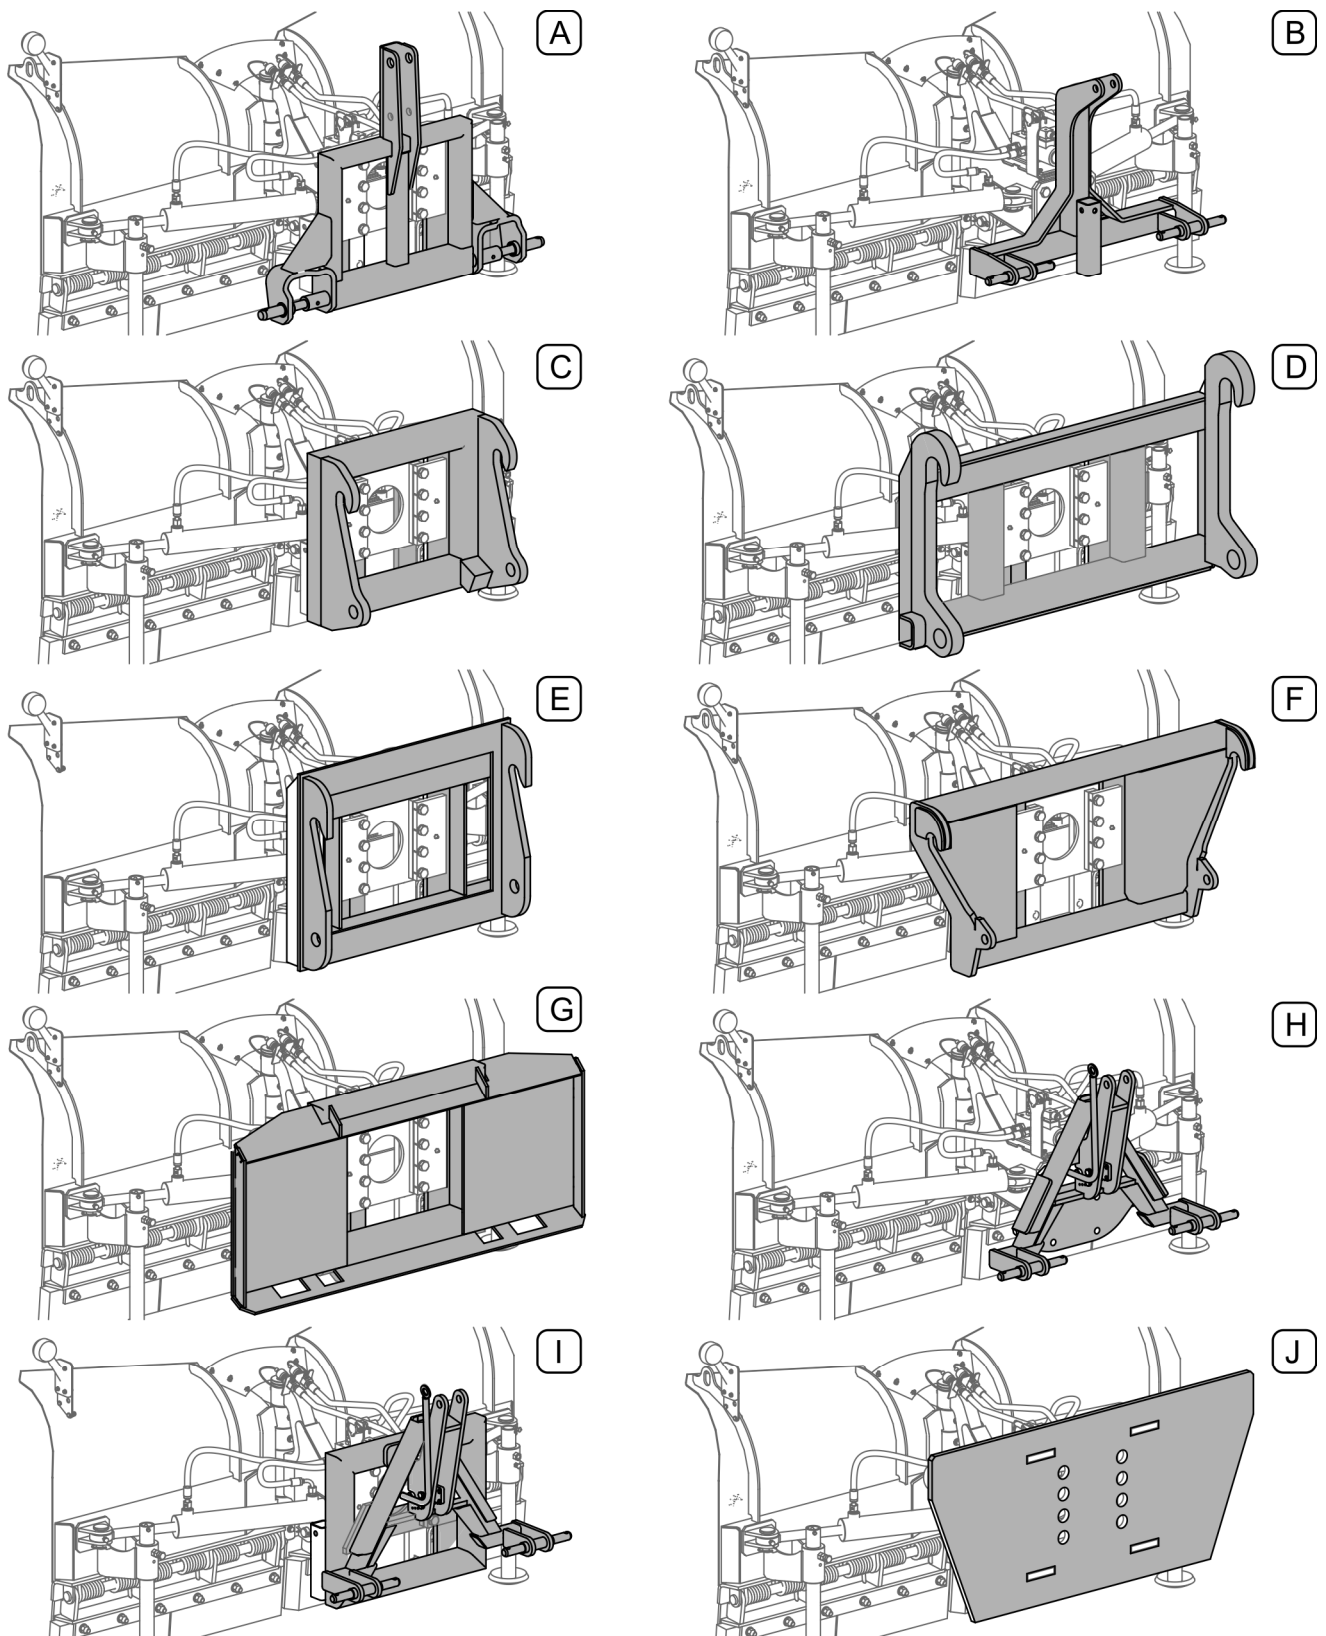
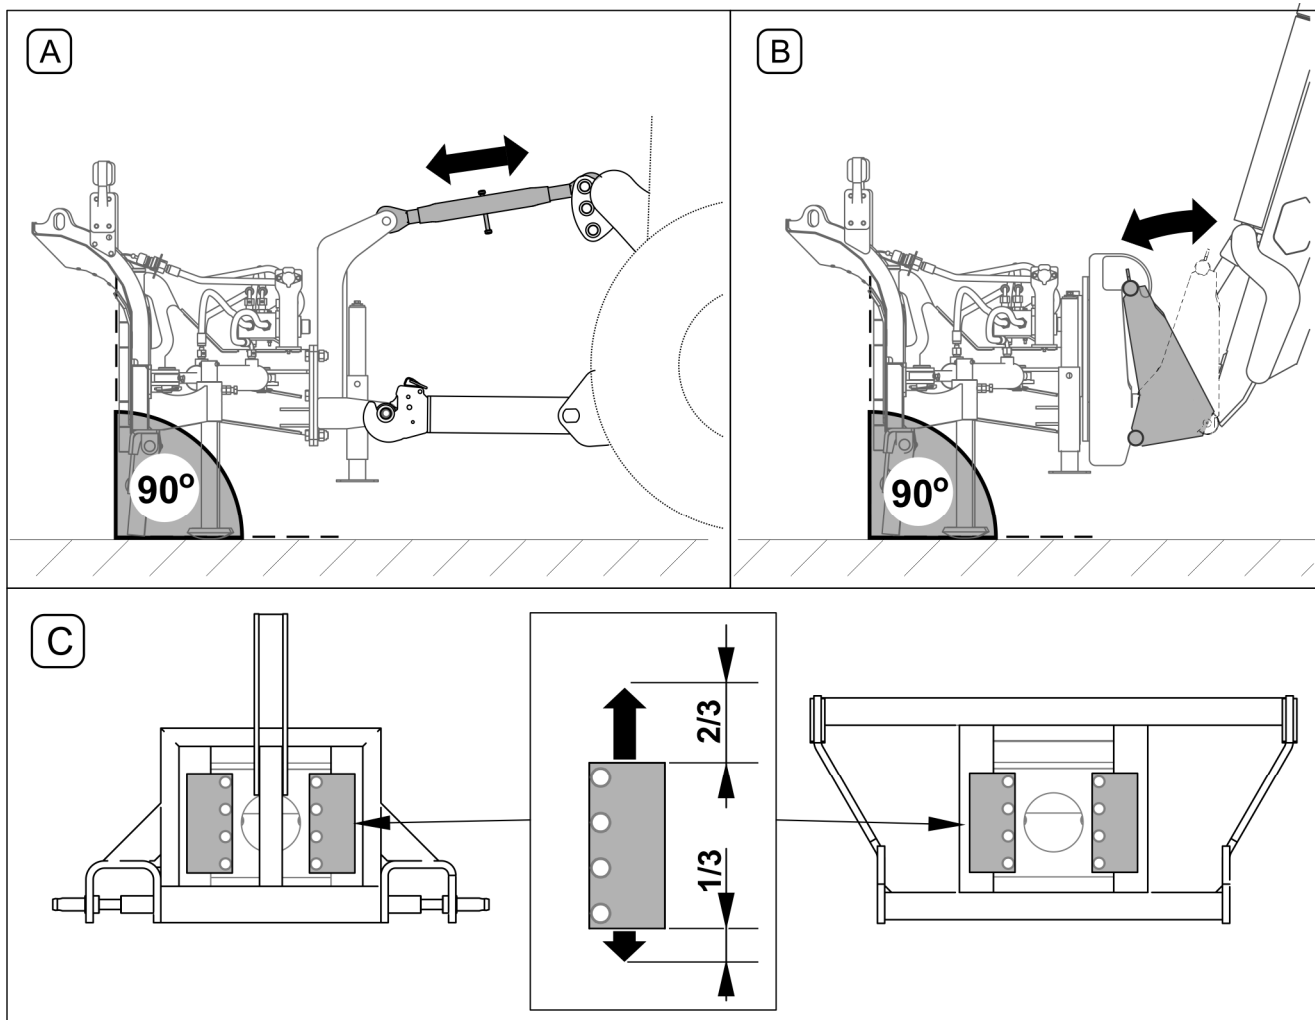

FIGURE 4.1 Types of linkage systems
FIGURE 4.7 Positioning plough body
The (B) and (H) (FIGURE 4.1) suspension systems are rigidly attached to the plough and require the floating carrier suspension, enabling the ground contour following.
To ensure optimum operation, the snow plough body should be level (the main blades pivot axis should be perpendicular to the ground). Levelling plough body in carrier vehicles with three-point linkage (A) is done by controlling the central link (FIGURE 4.7), while in front loaders and other vehicles (B) by positioning an implement mounting frame (*eg, using implement position indicator, if any*).
The swing linkage of the snow plough (C) must be set so that when the snow plough rests on the ground the range of the snow plough body movement relative to the linkage during ground surface tracking is 1/3 down and 2/3 up of the total stroke (FIGURE 4.7). When working with a plough equipped with a swing linkage (A, C, D, E, F, G, I, J) (FIGURE 4.1), set the carrier (*tractor three-point linkage, loader boom*) in a fixed position, do not work in floating position.